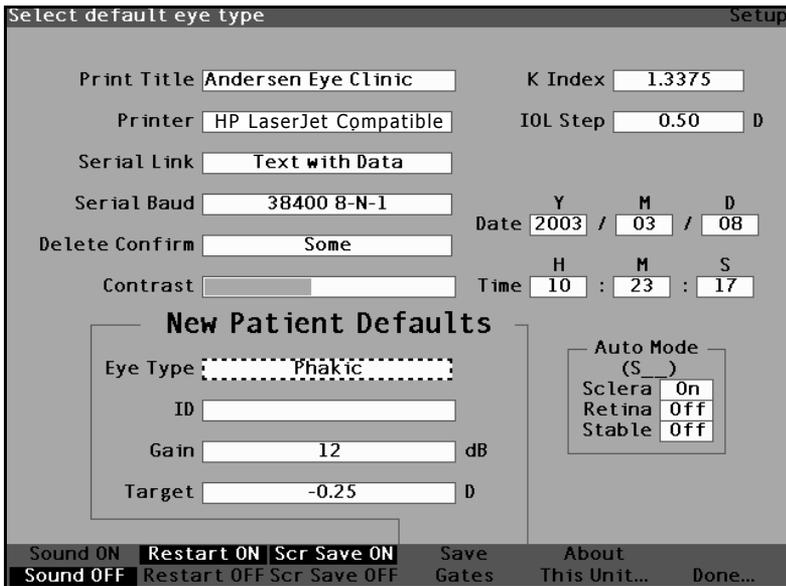

Figure 79 New Default Eye Type Selected
- 3. Within the Default Eye Type field, rotate the knob to select one of the pre-entered Eye Types as shown in Figure 79 below